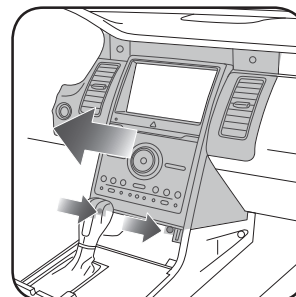

Fig. 1.5
4. Unclip, remove and unplug the radio bezel. (Fig. 1.5)